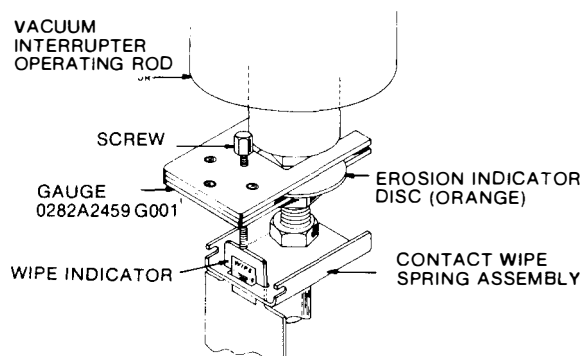

Fig. 13 Wipe Gauge
- (2) Insert gauge 0282A2459G001, Ref. Fig. 13, over the orange erosion disc and align the screw with the top of the wipe indicator. Turn the screw until it just touches the wipe indicator. Carefully hold the screw in position while removing the gauge. Measure the extension of the screw below the gauge plate bottom using a dial caliper and record this reading. Perform this measurement on all three phases.